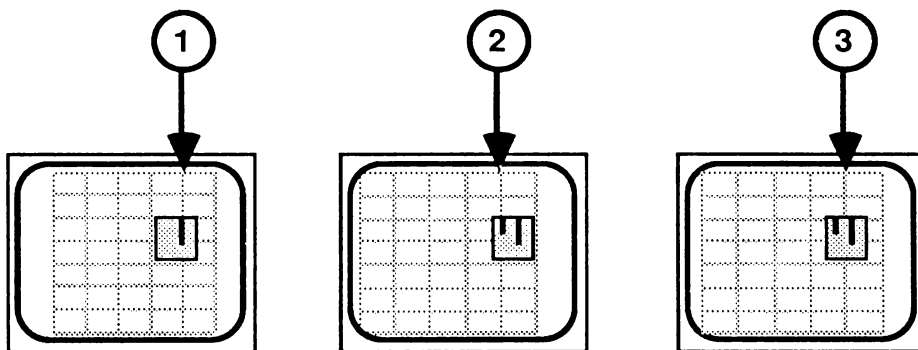

FIGURE 4
4. Choose a vertical line as a reference. Tape a piece of paper on the screen and make a mark on it at your reference line (Figure 4, #1).
7. At the point where the synchronization becomes good, mark where your reference line is now. (Figure 4, #2 shows the screen in the mirror.)
8. Turn the horizontal hold control until the vertical line on the screen is halfway between the two marks (Figure 4, #3).